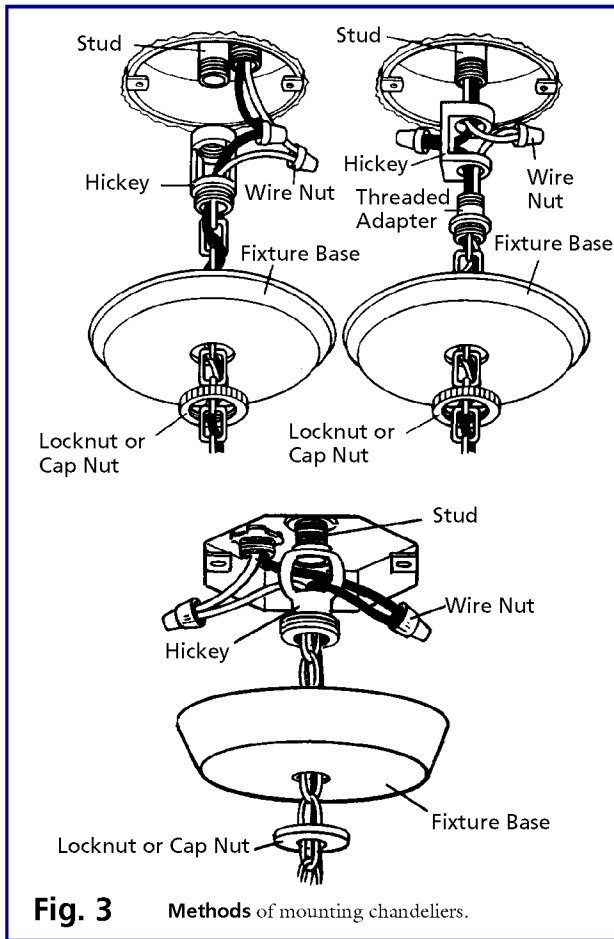

Fig. 3 Methods of mounting chandeliers.
- 4 Mount the fixture. The fixture is supported by mounting devices in or on the box (Fig. 3). A fixture between 10 to 20 pounds in weight is mounted on a hickey that is screwed to the stud in the box. The cap nut only secures the fixture base to the hickey; it doesn't hold the fixture up. A stud, hickey, and threaded adaptor are used to mount a heavy fixture of over 20 pounds. The necessary parts usually are packaged with the fixture.